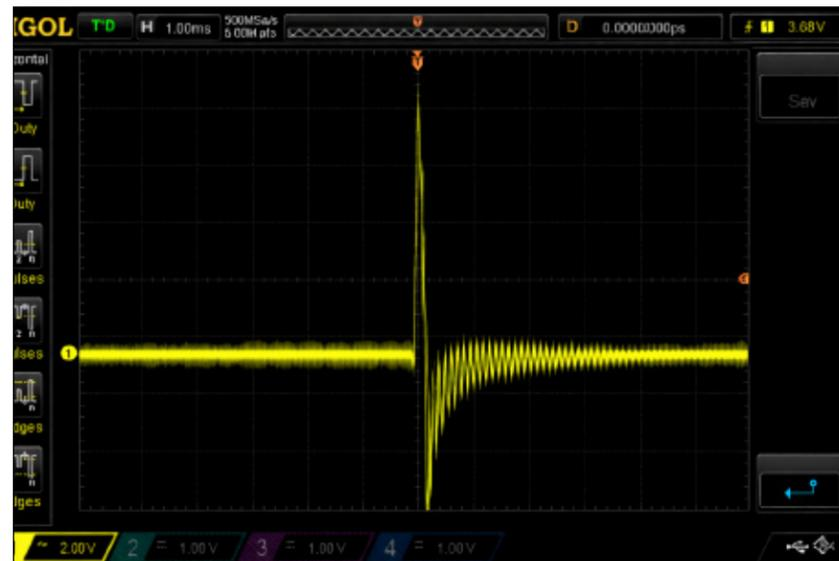

Figure 16
- See example time spectrum waveforms (*Figure 16* and *Figure 17*).
- *Figure 16* shows a single bearing fault event at high time resolution. The waveform consists of a sharp impulse followed by a decaying oscillation.